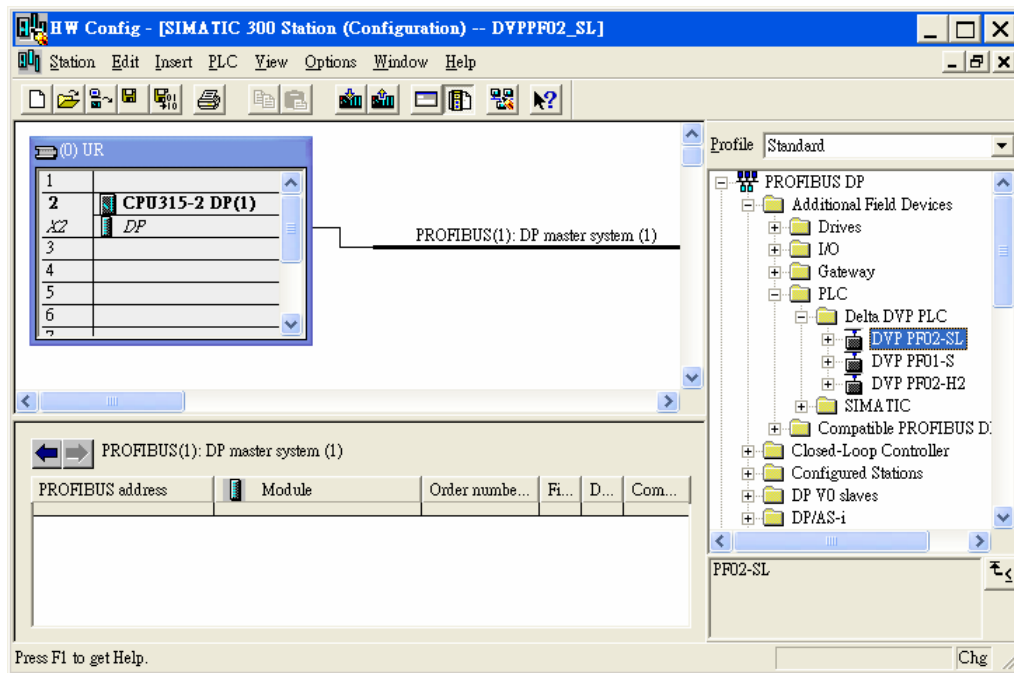

Figure 10-19
- After the GSD file is added, we can find DVPPF02-SL in the right-hand side window, as Figure 10-19. DVPPF02-SL is the new module created.